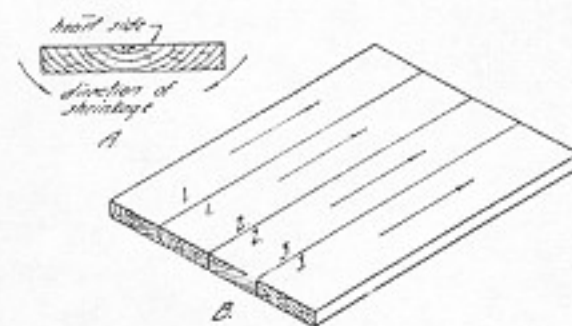

Fig. 267. Boards numbered for gluing. Arrows indicate the direction of the grain.
1. Two bar clamps are placed in wooden blocks on a gluing bench. The boards are laid on these clamps and are so marked that they can be quickly placed in the same position (Fig. 267; Planing Operation 37). The clamps are adjusted so that they open a little more than the combined width of the two boards.